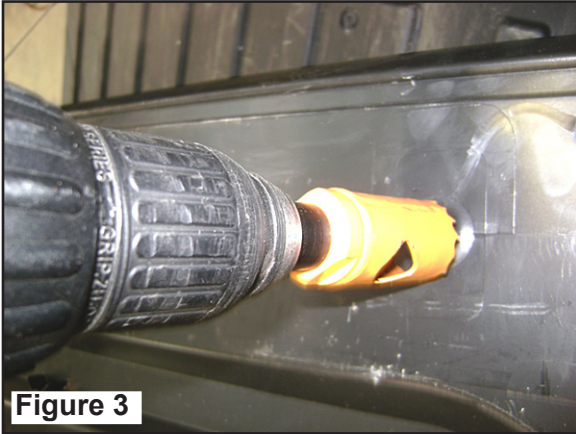

Figure 3
3. Using an electric drill and 1 1/8th hole saw, drill a 1 1/8th hole using the seat peg hole or mount plate to center the hole saw. **DO NOT drill too deep**; drill just far enough to get through to the plastic, revealing the seat foam. Figures 3 and 4.